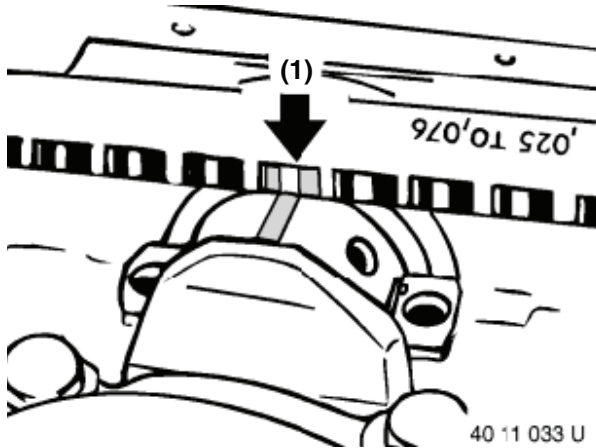

Figure 5-111
- Compare the width of the flattened PLASTIGAGE to the graduation marks on the package (**Figure 5-111, (1)**). The mark that most closely matches the width of the flattened PLASTIGAGE will indicate the bearing oil clearance.